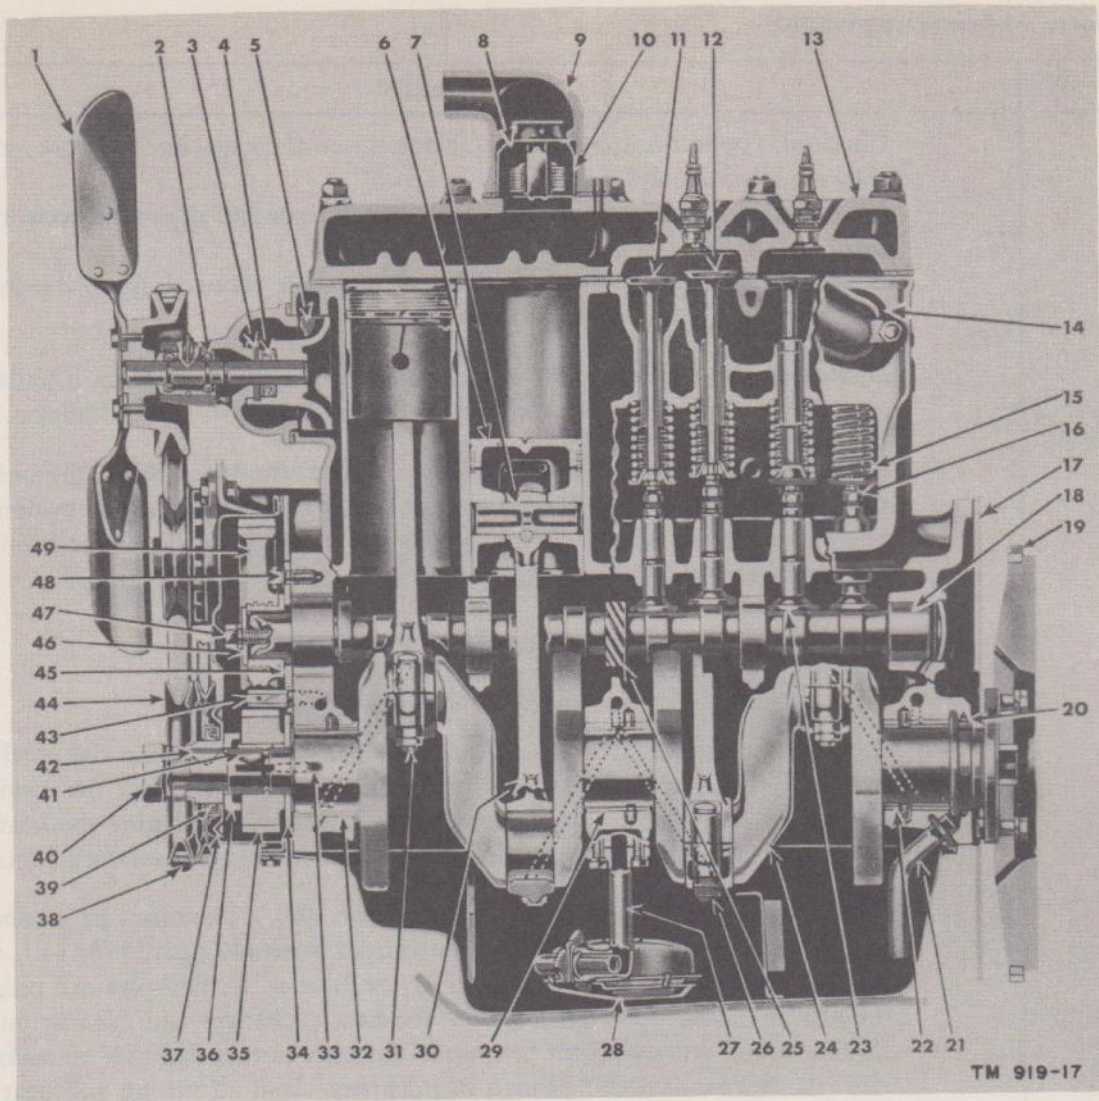

Figure 17. Engine, cross section, side view.
a. **ENGINE** (fig. 17). The internal-combustion, four-stroke-cycle engine is of the conventional automotive type. Four-stroke cycle means that there are four strokes of the piston, two up and two down, to each operating cycle. Only every fourth stroke of the piston is a power stroke. A complete cycle of one piston, with the individual operation of each stroke, is described in the following subparagraphs.
LEGEND FOR FIGURE 17